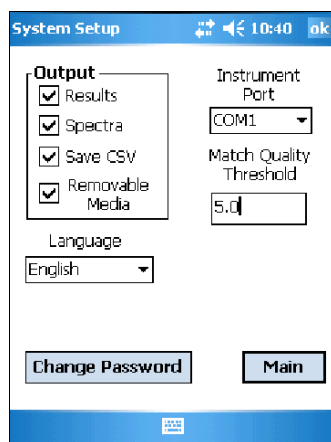

Figure 6.13: System Setup menu
The **System Setup** screen, illustrated in Figure 6.13, enables the user to select various setting for use during subsequent testing. In summary, the user may select which data files to record, where the data files will be recorded, which COM port to use for communication with the S1 TRACER analyzer, and the threshold for Match Quality used in Pass/Fail testing. The user password may also be changed beginning from the "System Setup" screen.
- Make sure the analyzer power is on for at least one (1) minute before starting the BrukerS1 program.
- If a measurement still cannot be started, check that the BrukerS1 software is configured properly for communication with the S1 TRACER analyzer. See section 6.4 and figure 6.13. Ensure that the Instrument Port is set to “Comm 1.”